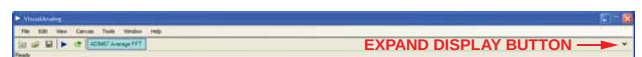
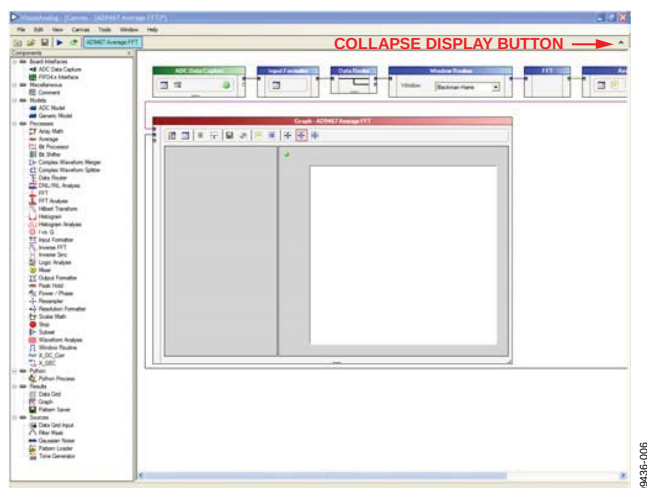
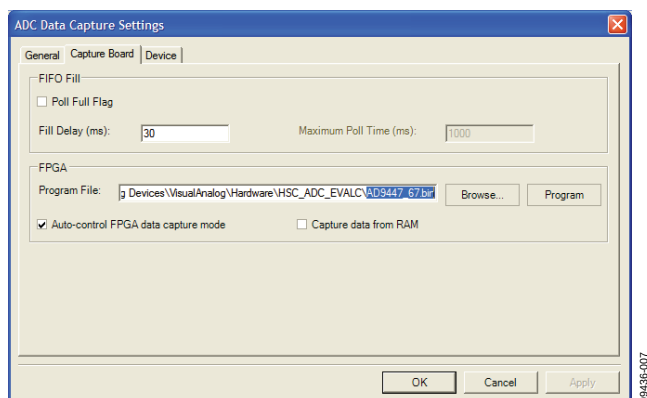

Figure 5. VisualAnalog Window Toolbar, Expand Display Button
Figure 6. VisualAnalog, Main Window Expanded Display
Figure 7. ADC Data Capture Settings, Capture Board Tab
3. To view different channels or change features to settings other than the default settings, click the **Expand Display** button located on the top right corner of the VisualAnalog window, as shown in Figure 5 and Figure 6.
- Program the FPGA of the HSC-ADC-EVALCZ board to a setting other than the default setting as described in Step 3. Then expand the VisualAnalog display and click the **Settings** button in the **ADC Data Capture** block (see Figure 6). The **ADC Data Capture Settings** box opens (see Figure 7).